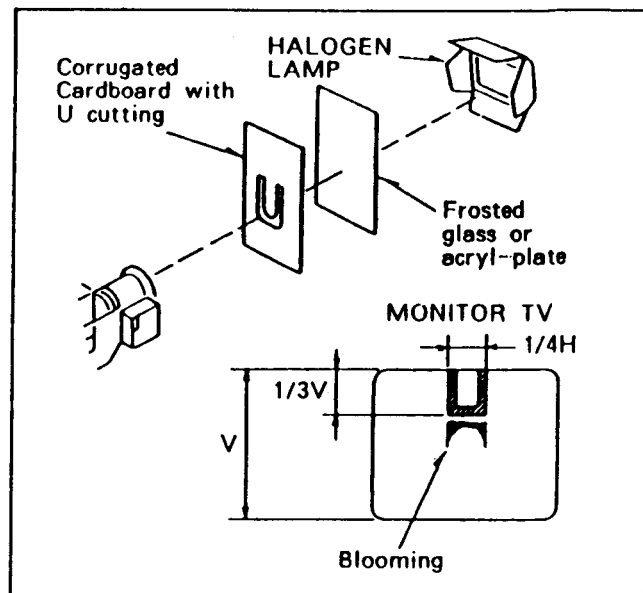

Fig.C6
1. Zoom all the way in(full TELE position) and aim the camera at the halogen lamp as shown Fig.C6.
Place the cardboard which has been cut to "U" shape as shown Fig.C6 between camera.
Spec.: (See fig.C6)